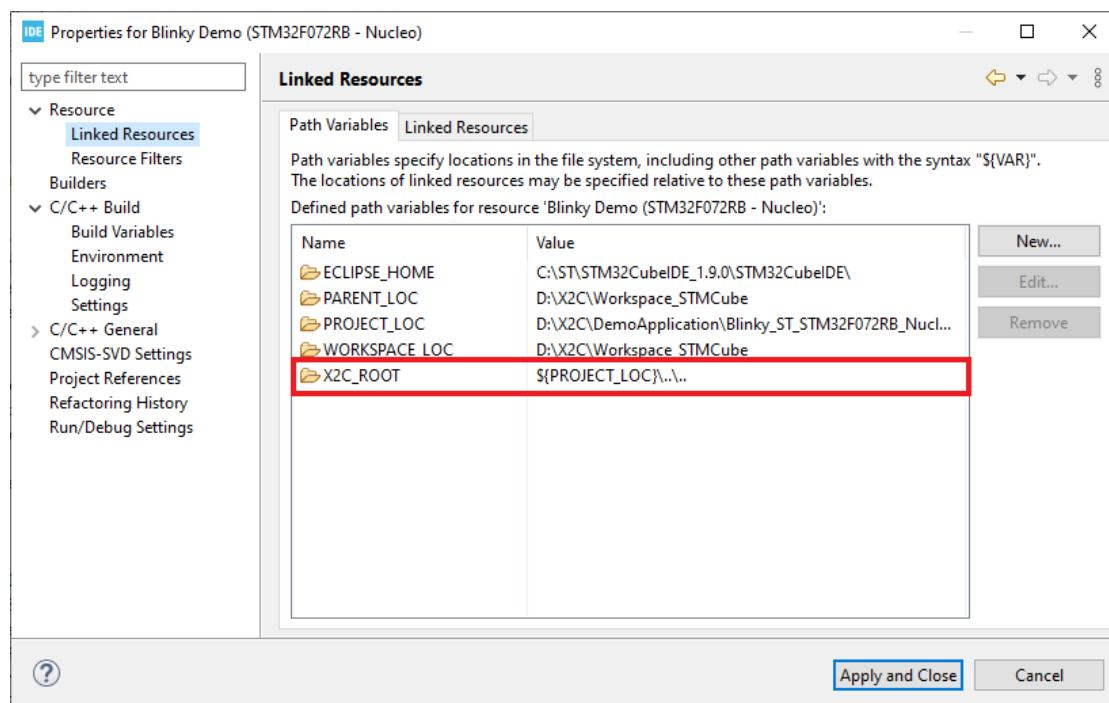
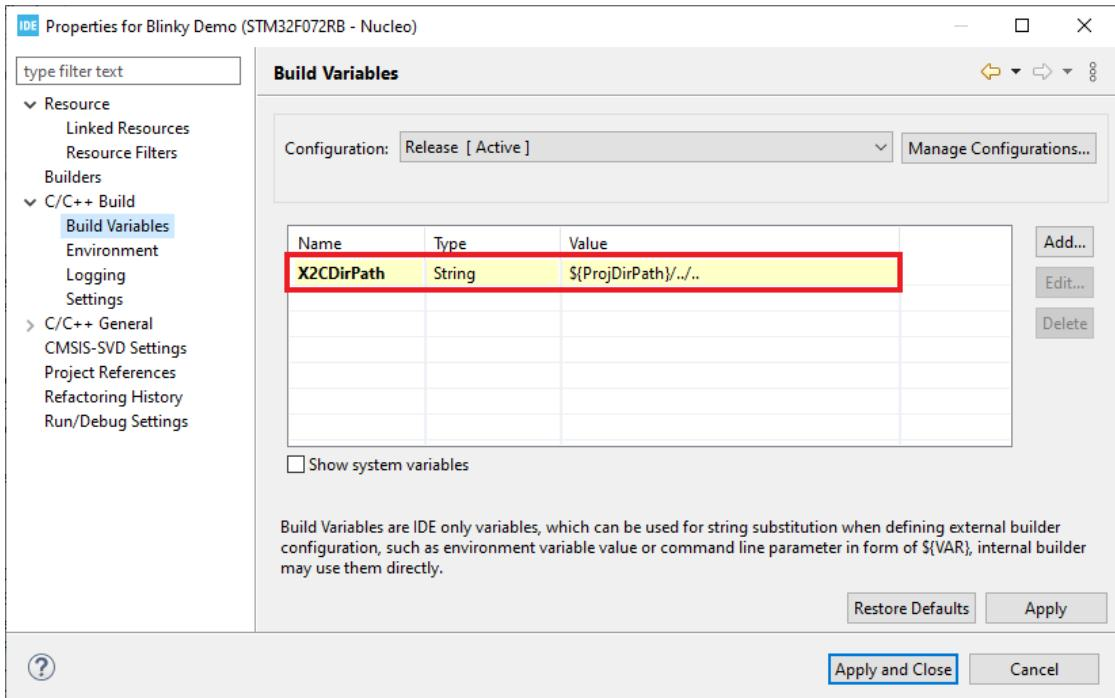

Figure 31: *STM32CubeIDE* resources settings
Figure 32: *STM32CubeIDE* build variables setting
3. In the *STM32CubeIDE* file structure of the *Blinky* demo project are two virtual folders *X2C-Blocks* and *X2C-Core*, which are linked relatively to the *X2C* directory. If the *Blinky* demo project is copied/moved to a different location, the resource property *X2C_ROOT* as seen in Figure 31 and the build variable *X2CDirPath* as seen in Figure 32 have to be adapted.